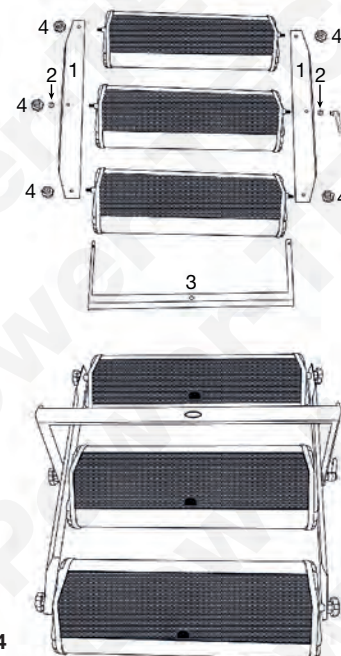

Figure 4
3. Assemble the lamp unit, referring the **Figure 4**.
4. The pivot studs on the lamps are placed through the side brackets (1), then place the washers (2) on the studs.
5. The main mounting bracket (3) is placed over the centre studs and then the lamps are secured to the side brackets with the hand-nuts (4).